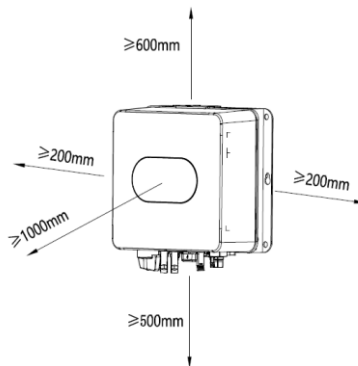

Fig 4.4 Installation spacing of inverter
(2) There is enough reserved space around the installation site to facilitate the disassembly and assembly of inverter and air convection. As shown in Fig 4.4.
(3) When installing multiple inverters, a certain distance shall be reserved between the inverters, as shown in Figure 4.4. At the same time, sufficient distance shall be reserved between the upper and lower parts of the inverter to ensure good heat dissipation .